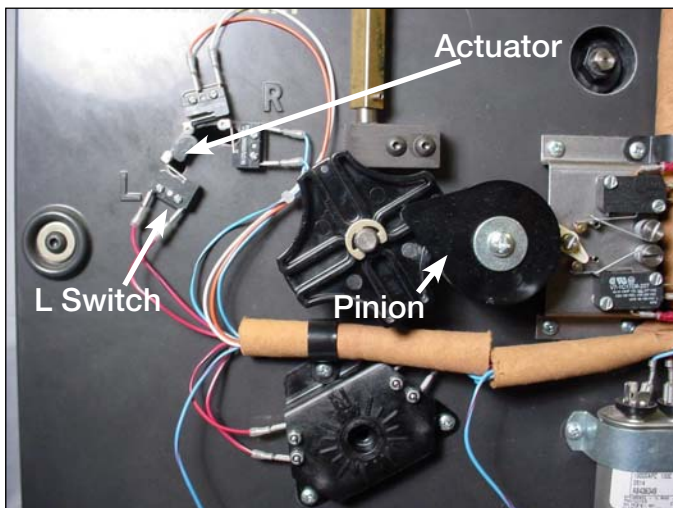

Figure 29.
- Position the position actuator arm between the center position and L by rotating the pinion counter clockwise. See Figure 29. This will allow for mounting the micro switches without interference with the micro switch arms.